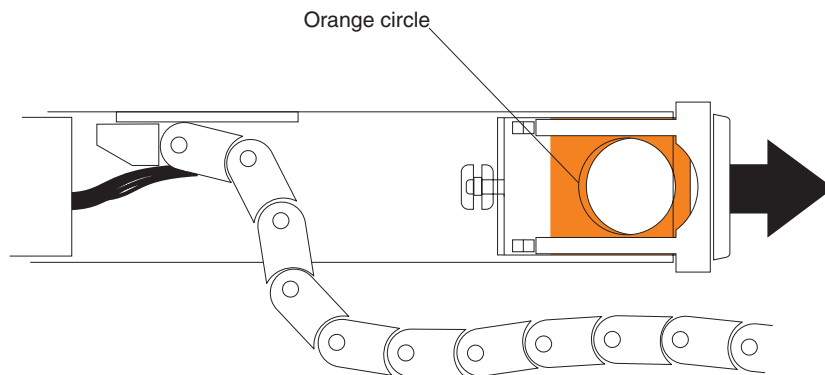

Figure 64. Horizontal mounting bracket that connects to the drive drawer
- b. Disconnect the right cable chain mounting bracket from the drive drawer. Hold the orange handle (See Figure 64), and pull the mounting bracket out of the drive tray.